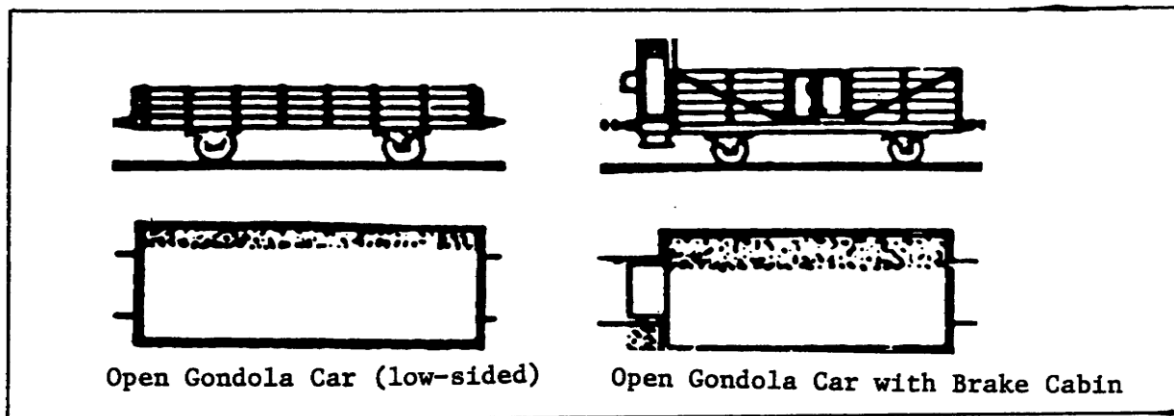

Figure 1-38. Gondola Cars.
b. Gondola cars are open, flat-bottom cars with low or high siding around them. The siding may be as high as 4 to 5ft. Lengths vary from 22 to 50ft (Figure 1-38).